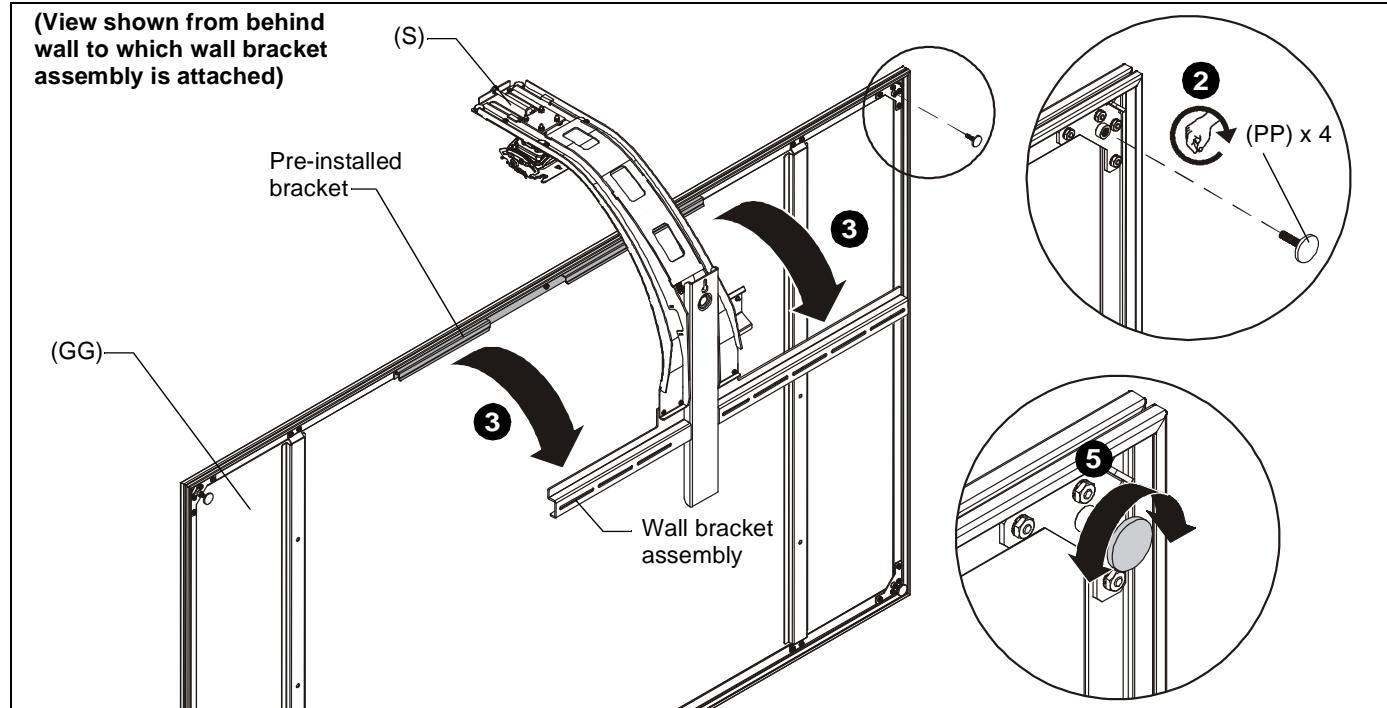

Figure 7
2. Stand screen up and add leveling feet (PP) to each corner on the back of screen. Do not over tighten. (See Figure 7)
3. Hang screen (GG) onto wall bracket assembly using pre-installed bracket on back of screen assembly. (See Figure 7)
5. Level the screen against the wall by placing a level against the front of it, and adjusting the leveling feet. (See Figure 7)